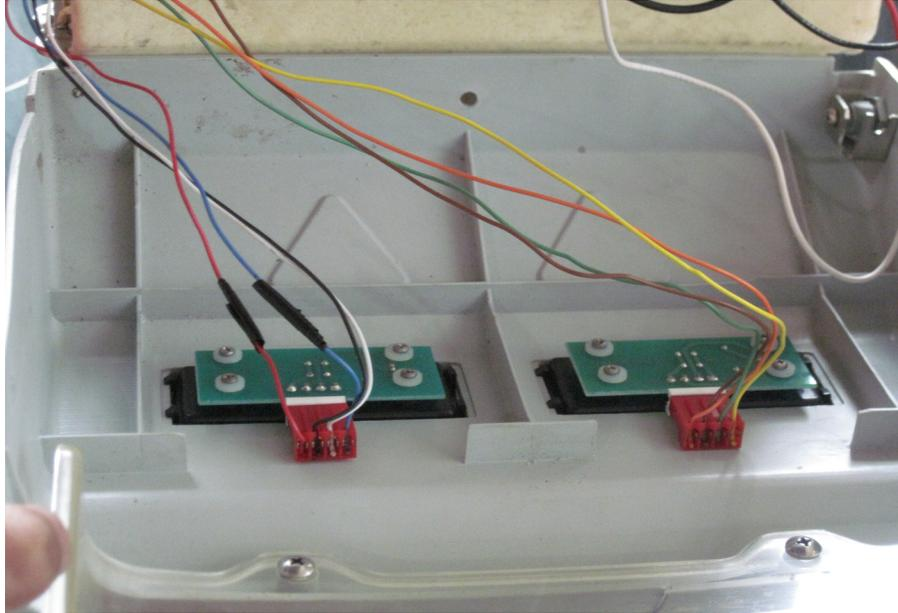

Figure 6.
- Place the merchandiser in front of you and put the connector board using the sequence as shown in the Figure 6. (start from left to right) See the labels on harness.